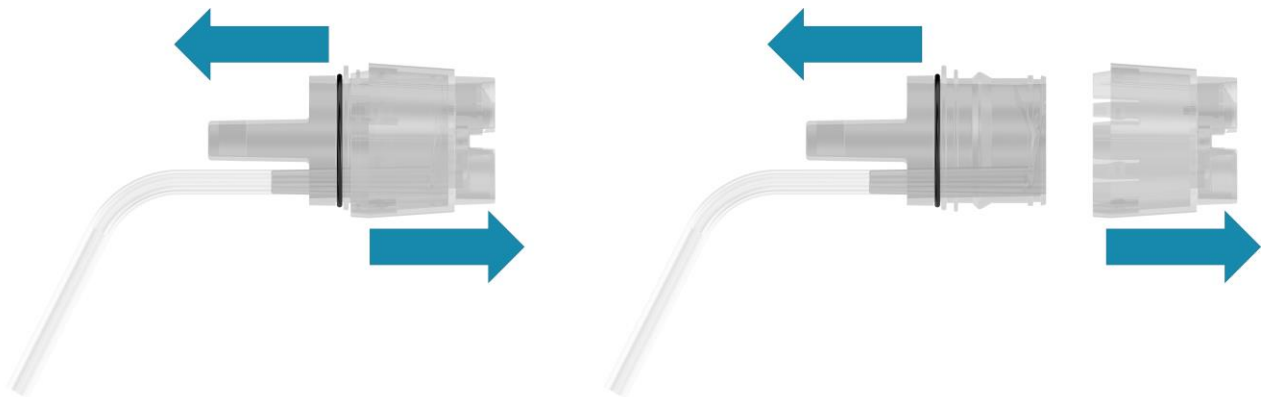

Figure 8 – Disassembling the breathing regulator
- ◆ Separate the two parts of the breathing regulator by pulling them apart as shown in **FIGURE 8**.